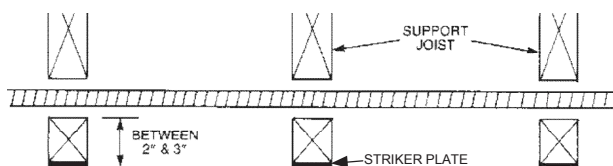
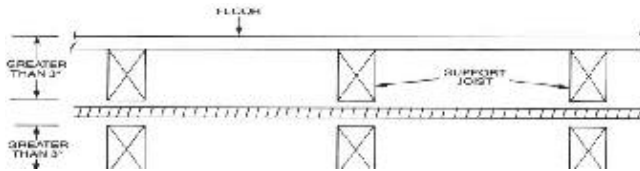

Figure 4.11 Shielding at Support Area When Penetration is 2-3 inches from Edge
Figure 4.13 Penetration Point Greater than 3" from Edge of Stud, Joist, Plate, etc.
2. At support points and points of possible penetration 2-3 inches from any edge of stud, joist plate, or other member, shielding is required throughout the area of support. (Figure 4.11)
- Support tubing such that it is more than 3 inches away from any outside edge of a stud, joist, plate, etc., or wall surface. (See Figure 4.13 compared to Figure 4.11)